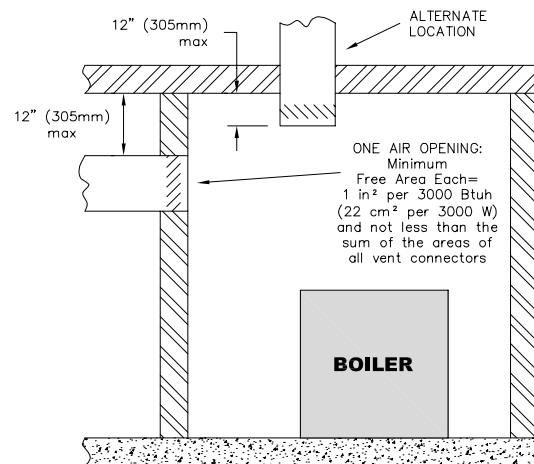

Figure 1.8: Air Openings – All Air from Outdoors through One Opening
b. **One Permanent Opening Method:** Provide one permanent opening beginning within 12 inches (305 mm) of the top of the space. The opening shall communicate directly with the outdoors, communicate through a vertical or horizontal duct, or communicate with a space that freely communicates with the outdoors. The opening shall have a minimum free area of 1 in2 per 3000 Btu/hr of total rated input for all appliances in the space and not less than the sum of the cross-sectional areas of all vent connectors in the space. The gas-fired equipment shall have clearances of at least 1 inch (25 mm) from the sides and back and 6 inches (150 mm) from the front of the appliance. See Figure 1.8 for this arrangement.